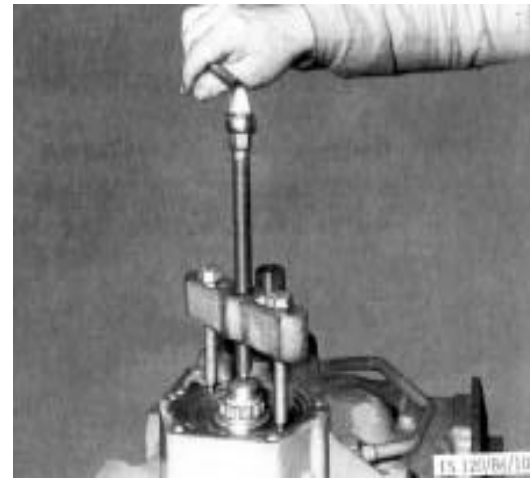

Fig. 5-18
- 4. When dismantling the oil pump assembly (part 17 to part 23 in Fig. 5-12), the cover plate and end plate (part 21 and part 18 in Fig. 5-11) must be removed first. Turn the input shaft (part 1 in Fig. 5-12) to see the steel ball (part 22 in Fig. 5-12), then pull out the oil pump assembly by using puller and bolt (part 1 and part 2 in Fig. 5-18).